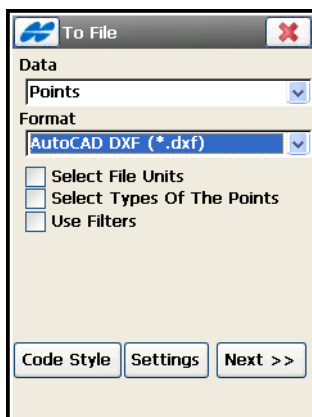

Figure 5-34. AutoCAD DXF
1. When exporting points to the *AutoCAD DXF* or *AutoCAD Drawing* format, you can select an option not to export code attributes on the **To File** screen (Figure 5-34).